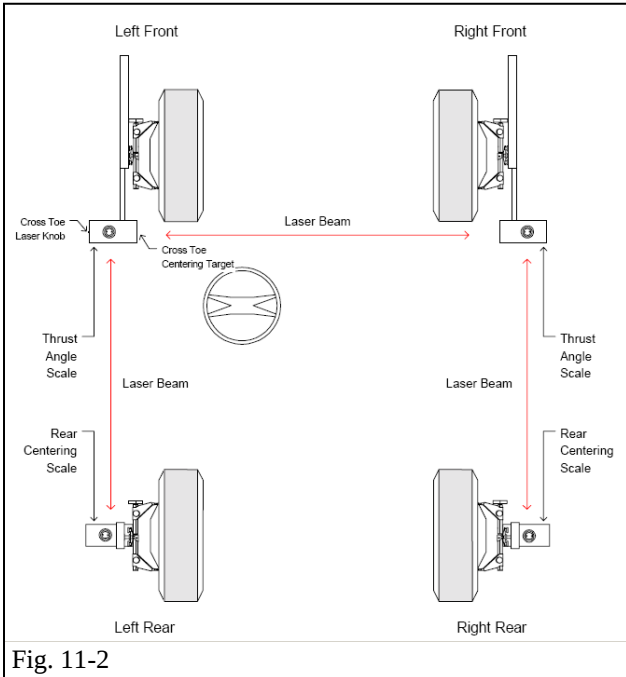

Fig. 11-2
- (b) Place the alignment heads onto the wheel clamps as shown in Fig. 11-2.
- (1) The front alignment heads should have the laser boxes facing the rear of the vehicle.